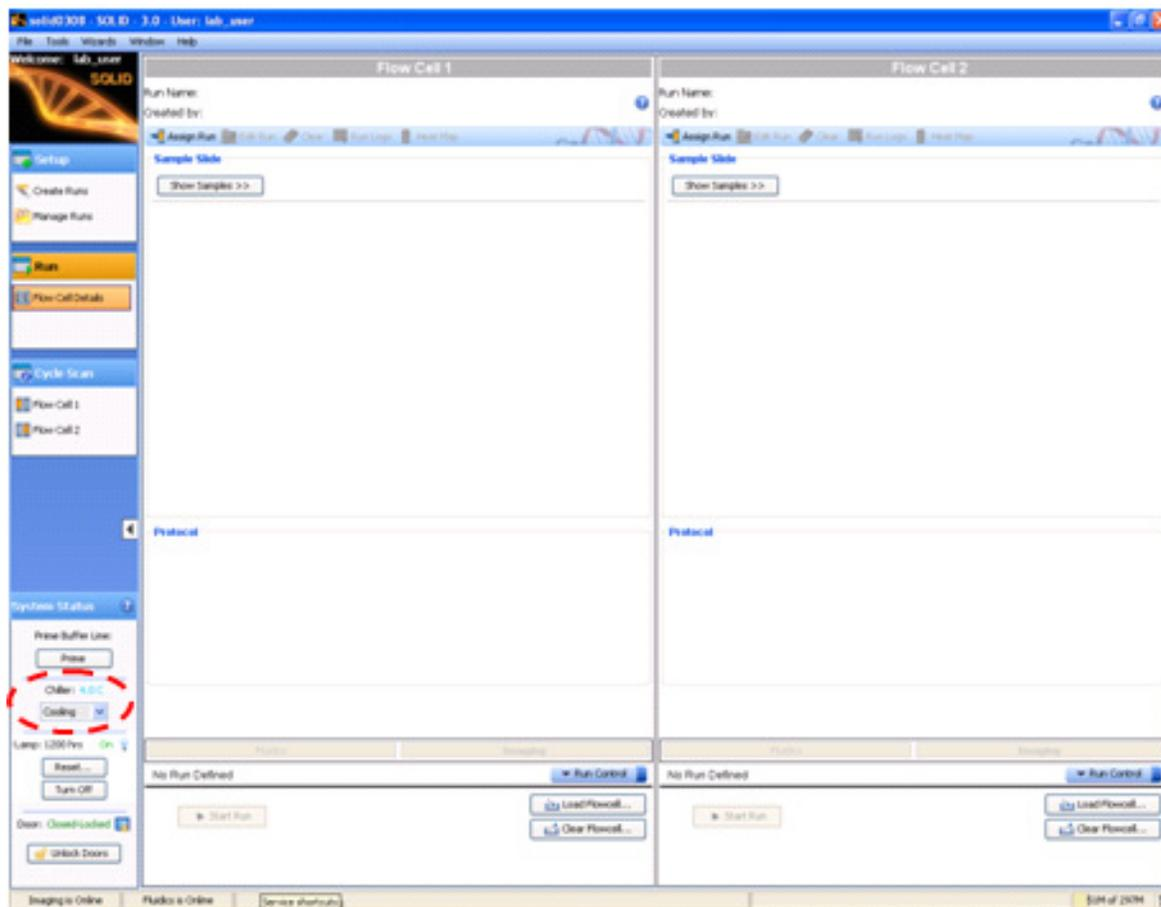

Figure 13 Select **Cooling** to cool the flowcell.
2. Under the System Status menu, select **Cooling** from the Chiller drop-down menu (Figure 13).
IMPORTANT! Ensure that the chiller block temperature is below 10 °C before proceeding with reagent strip installation. Under the System Status menu, select **Cooling** from the Chiller drop-down menu (Figure 13 on page 23).